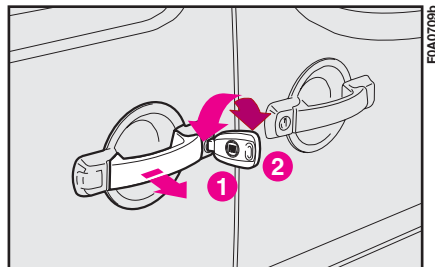

fig. 110
**Opening:** turn the key to 2-fig. 110 and pull the handle in the direction of the arrow then, make the door slide backward to the stop limit catch.
**Closing:** use the external handle and push the door forward. Turn the key to 1- fig. 110.
**Opening:** pull the handle as shown by the arrow fig. 110 and make the door slide backward.
**Closing:** pull the handle as shown by the arrow fig. 110, thus releasing the lock and make the door slide forward.